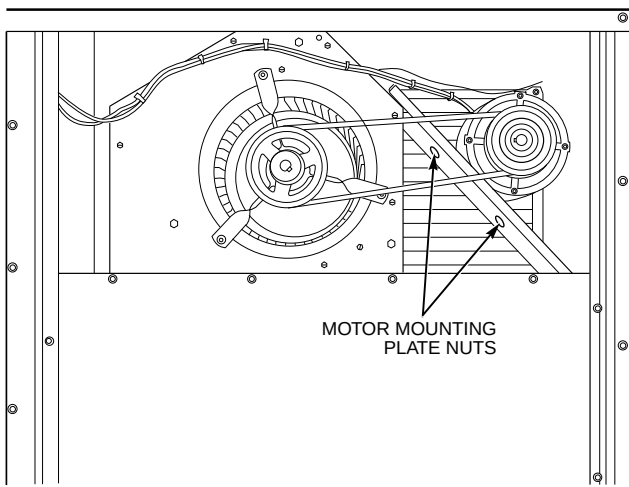

Fig. 23 — Typical Belt-Drive Motor Mounting for Size 008
2. Loosen belt by loosening fan motor mounting nuts. See Fig. 23 and 24.
2. *Size 008* — Slide motor mounting plate away from fan scroll for proper belt tension (13 mm [$\frac{1}{2}$ -in.] deflection with one finger) and tighten mounting nuts (see Fig. 23).